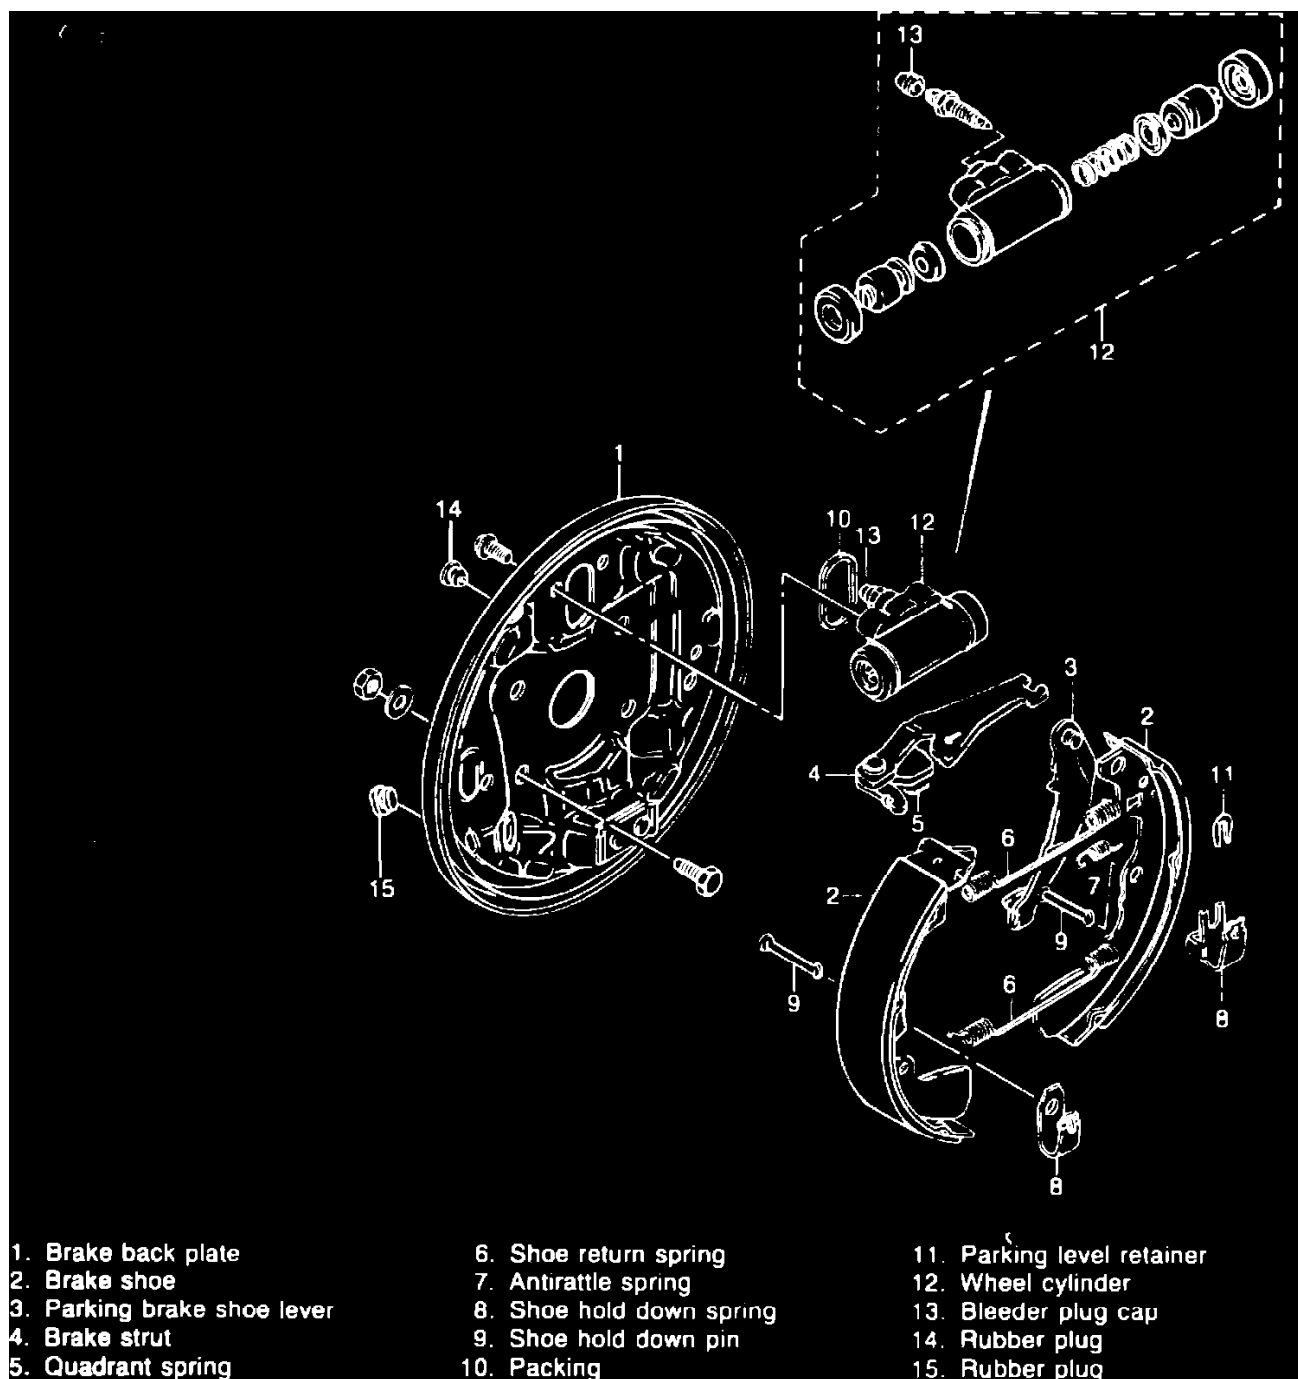

Fig. 5 Assembling rear brake unit
20. Assemble brake shoes, levers and springs as shown in Fig. 5.